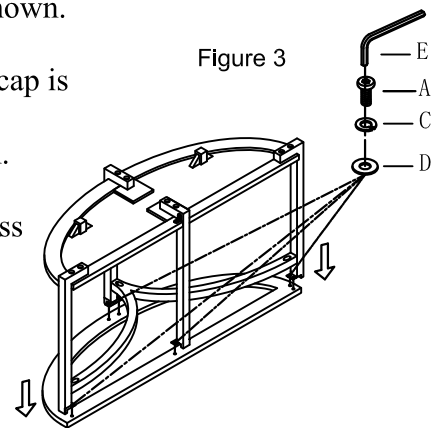

Figure 3
Step 3. Place the table to top round frame to make sure holes on metal cap is aligned with holes on top round frame. Tighten Bolt (A) with Flat Washer (D)+Lock Washer (C) by Allen Wrench (E) as Figure 3 shown.
Step 4. Tighten all bolts before setting table back upright. Place the glass on top of the top frame as Figure 3 shown.